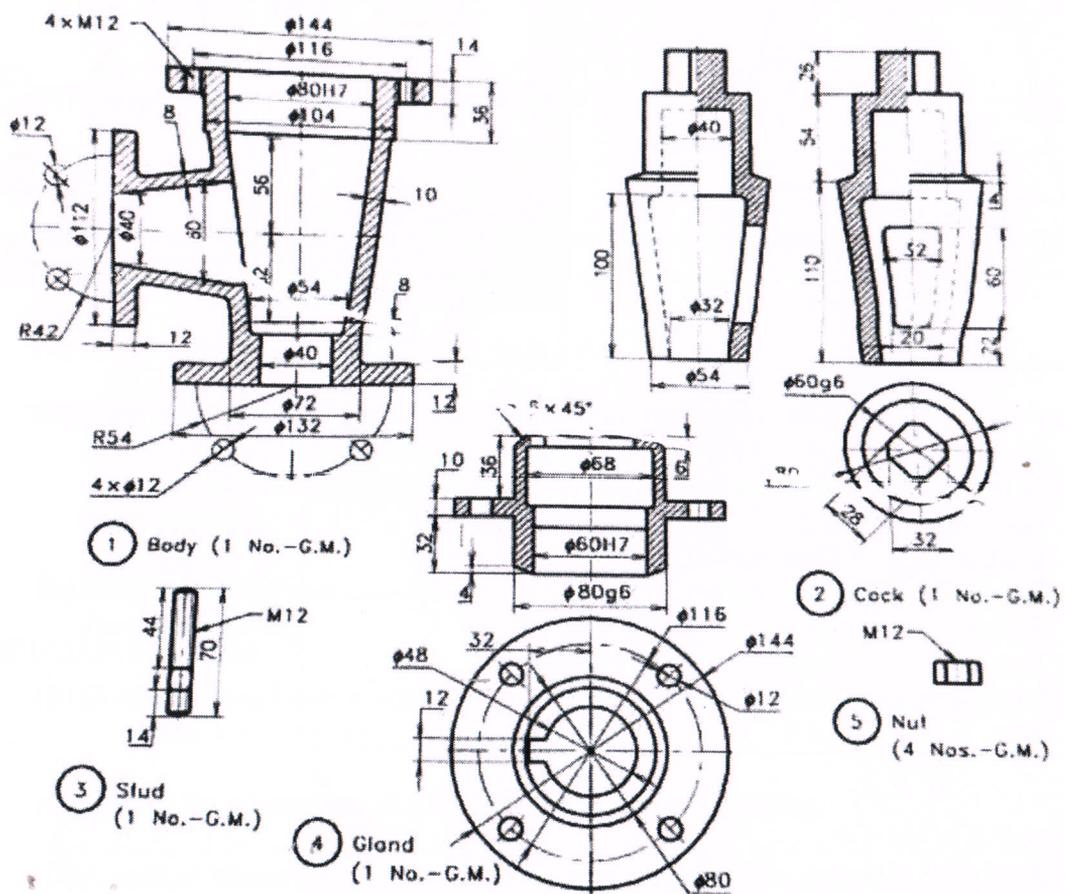

FIGURE 1 BLOW OFF COCK
Q.5 Assemble the different parts of **BLOW OFF COCK** as shown in figure 1 and draw its **FRONT VIEW**. (30)